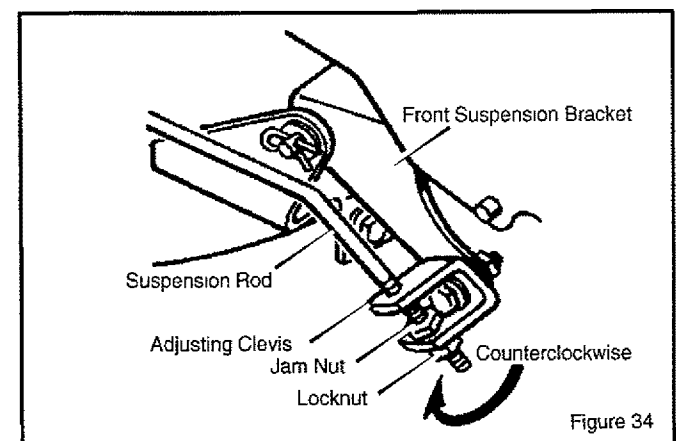

Figure 34
1. Loosen the **jam nut** (Figure 34).